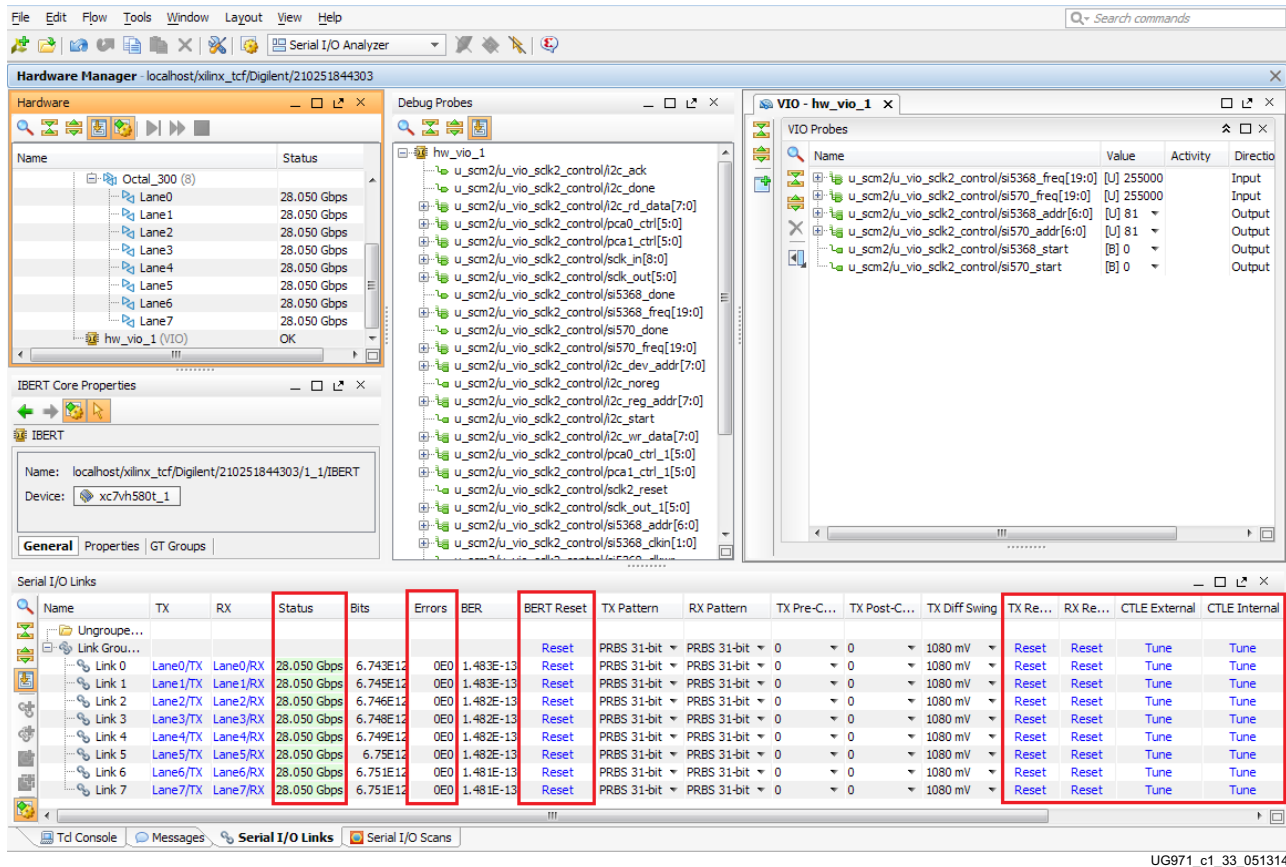

Figure 1-33: Serial I/O Analyzer Links
After completing step 6, page 40 in Starting the SuperClock-2 Module, page 36, the IBERT demonstration is configured and running. The link status and test settings are displayed on the Serial I/O Links tab in the Links Window shown in Figure 1-33.
- The line rate for all GTZ transceivers is 28.05 Gb/s (see the Status Column in Figure 1-33).
Note: External or internal CTLE tuning might be required for successful GTZ operation. If the Link Status shows **No Link** for one or more transceivers, click the respective lane **CTLE Tune** button (Figure 1-33).